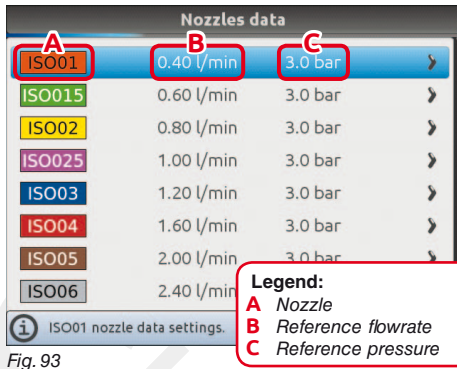

Fig. 93
- Select the nozzle you wish to set up (Fig. 93).